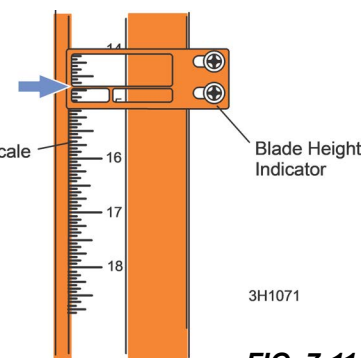

FIG. 7-11
- View the blade height scale with eyes level with the indicator. **See Fig. 7-11.**